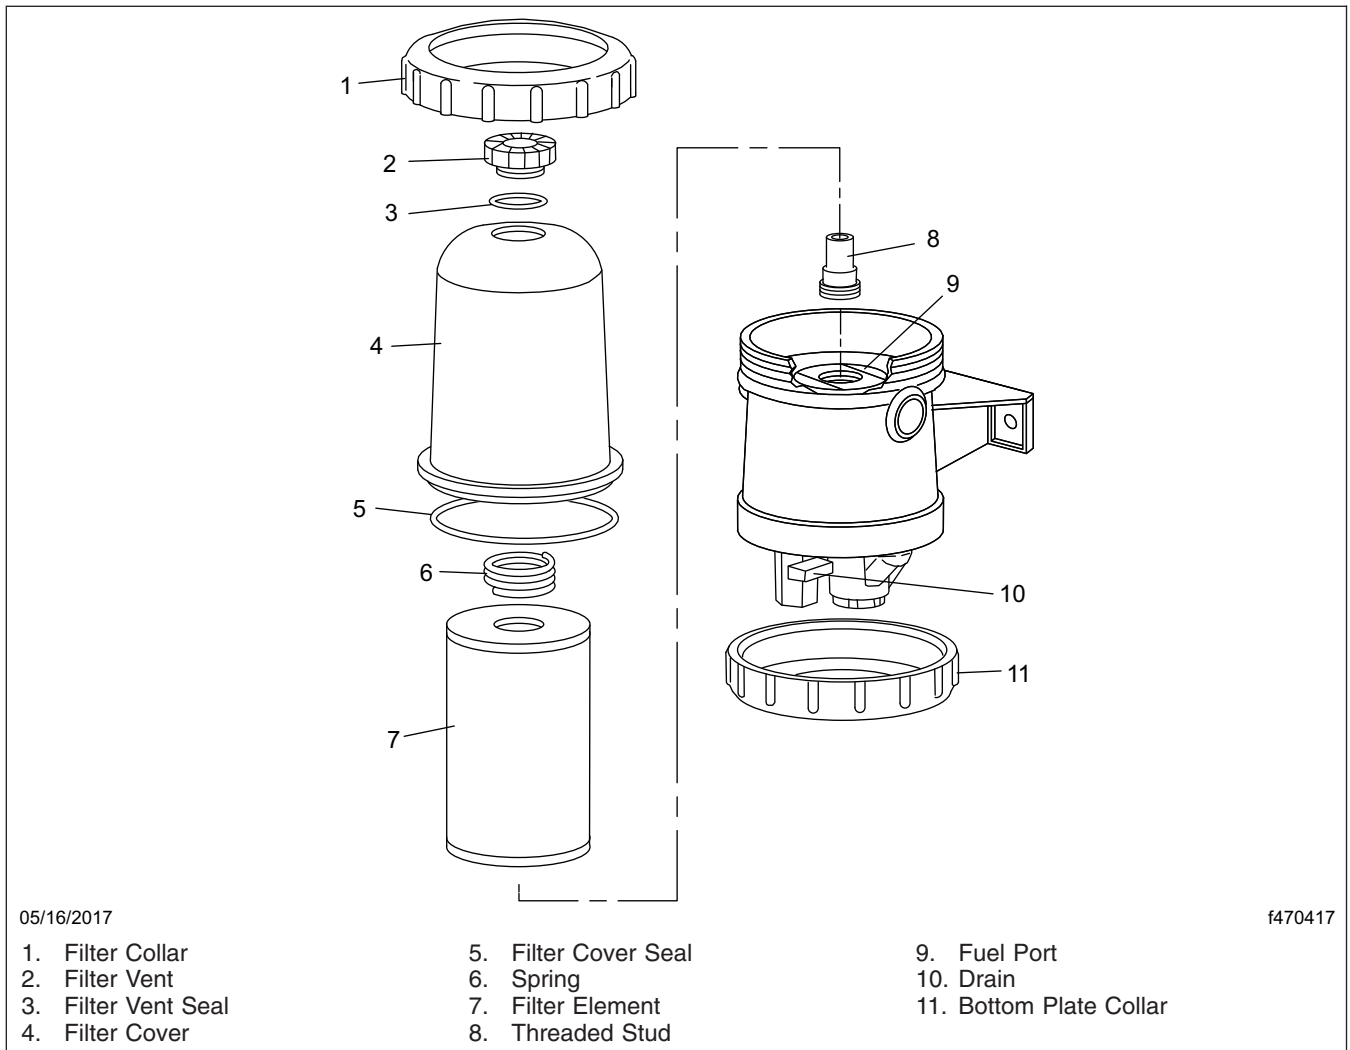

Fig. 13.2, Davco Model 382 Fuel/Water Separator
1. Drain the fuel until it is below the level of the filter collar. See **Fig. 13.2** for the model 382 fuel/water separator.